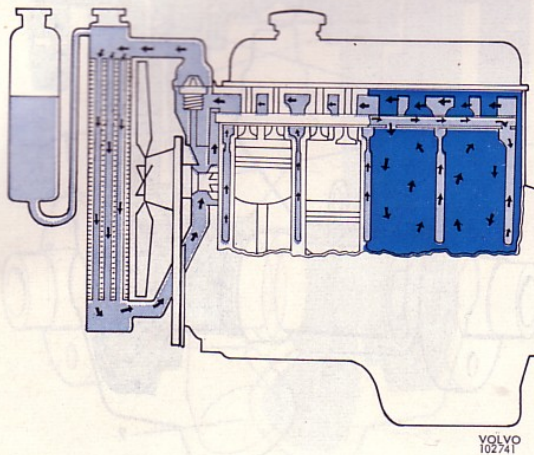
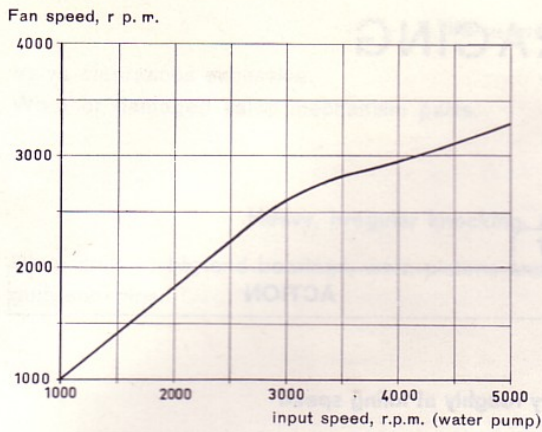

Fig. 124 Sealing cooling system
Fig. 131 Curve for fan coupling slip
The engine is water-cooled and the cooling system is of the sealed type, see Fig. 124. The B 20 A engine is fitted with a fixed fan. A speed-regulated fan (does not apply to models 1300 and 1800, which have a fixed fan), a so-called viscous type (see Fig. 125), is fitted on the B 20 B unit. Its function is to ensure that the fan blades do not exceed a certain speed even if the engine speed is exceeded. See Fig. 131. The five fan blades are mounted asymmetrically to keep down the noise level. The fan coupling consists of the casing (11, Fig. 125) in which the plastic fan blades (12) are secured with the bolt (2). The casing (11) has two halves which, however, cannot be separated for repairs, the fan coupling then being replaced complete. The hub (8) has a light fit on the water pump flange (6) and is locked by means of the centre bolt (7). The hub is provided with a slip disc of friction material (9) surrounded by oil. During idling and at low speeds, slipping is insignificant, so that the fan provides an air current for good cooling. When the ingoing speed (that of
the water pump) exceeds about 2600 r.p.m., the slipping increases (see Fig. 131). With this arrangement, the fan speed should never exceed about 3000–3500 r.p.m. The fan noise output would then be low compared with a fan which runs at the same high speeds as the water pump. Compared with this latter type of fan, the output loss will be less for the viscous type fan.
The fan coupling function can be checked with a stroboscope with variable blinking frequency. Make a mark on the fan and one on the water pump pulley. Find out the speed relationship between fan and pulley by means of the stroboscope. The fan speed should follow the speed of the water pump according to the curve given in Fig. 131.